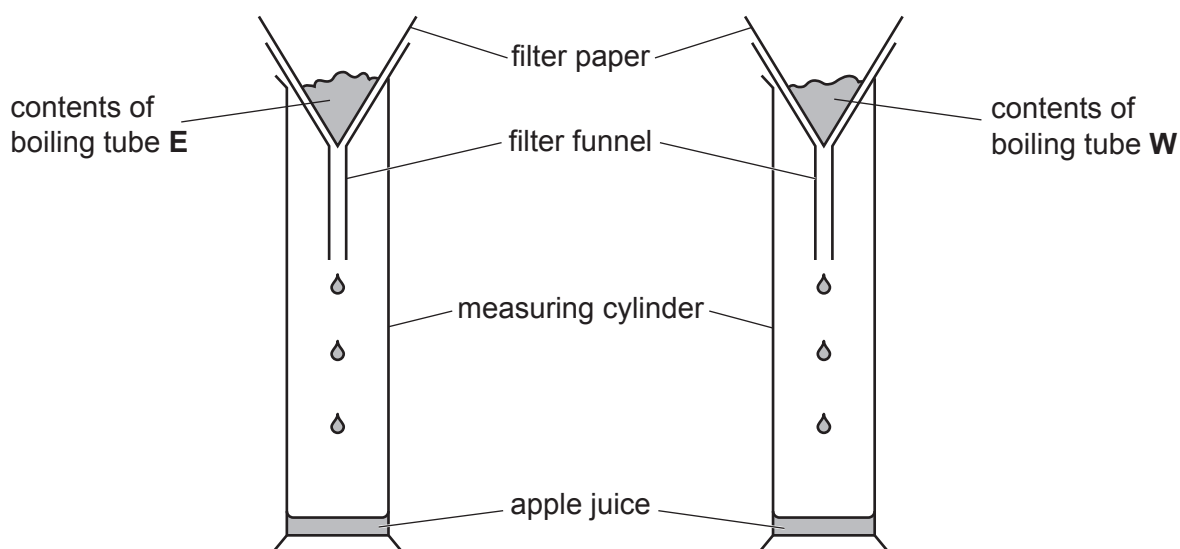

Fig. 1.1
- step 12** Pour the contents of boiling tube **E** into one filter paper and the contents of boiling tube **W** into the other filter paper, as shown in Fig. 1.1.